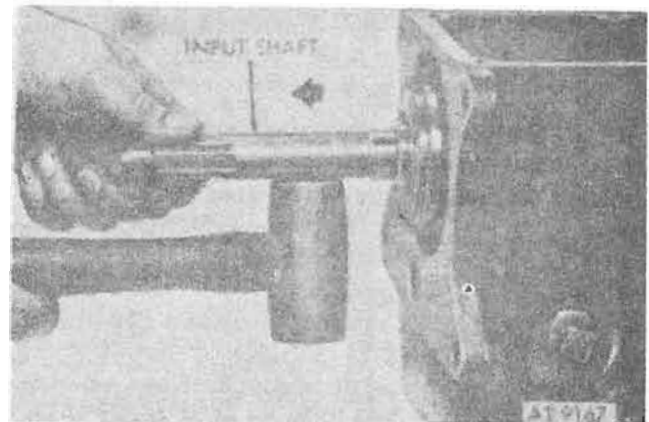

Figure 8-34. Removing input shaft from transmission.
g. Tap input shaft gently with soft hammer and carefully remove input shaft assembly and 14 needle bearings from transmission housing (fig. 8-34).